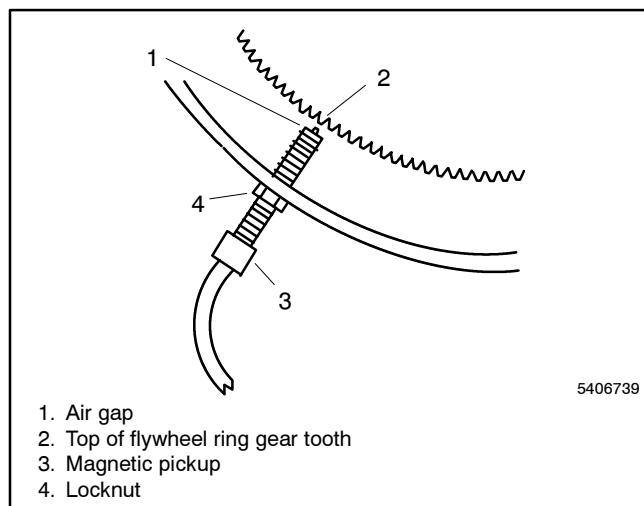

Figure 5-63 Magnetic Pickup Air Gap
7. Verify the magnetic pickup air gap is 1.02 ± 0.127 mm (0.040 ± 0.005 in.). See Figure 5-63.